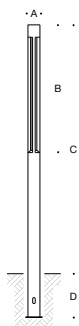

Figure 1:
3. Luminaire is rated for direct burial installation only (Figure 1)